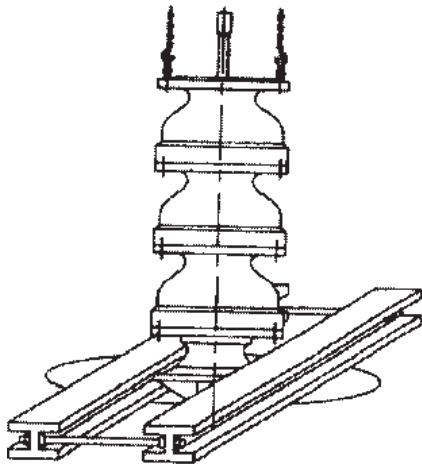

Figure 5
3. Place two I-beam supports across the base plate opening, strong enough to safely support the weight of the entire pump assembly. These I-beams should be connected by threaded rods and nuts so as to clamp them firmly together for the portion to be supported. (See Figure 5).